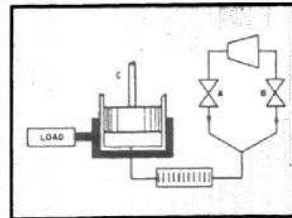
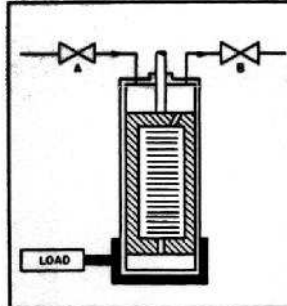

Figure 2 Cooling Circuit with Regenerator
Figure 4 Improved Single Stage Refrigerator
incoming gas must be cooled with the exhaust gas before the former reaches the cylinder. This is accomplished in the CRYODYNE refrigerator by a regenerator, which extracts heat from the incoming gas, stores it, and then releases it to the exhaust stream (Figure 2).
- does so (6). The temperature drop ( $\Delta T_r$ ) is responsible for the refrigerating effect.
- Heat flows from the load through the cylinder walls, warming the gas to a temperature slightly ( $\Delta T_c$ ) below that at which it entered the cylinder (7).
- As the gas passes through the regenerator, it warms up (8) as it receives heat from the matrix, and the matrix is cooled (4) to (3).
- The low-pressure gas leaves through valve B at approximately room temperature (9).
- In the system of Figure 2, the piston would require a pressure seal and would have to be designed to withstand unbalanced forces. A more practical version of this cycle is shown in Figure 4. This system uses a double-ended cylinder and
The refrigerator shown in Figure 4 can achieve temperatures in the 30-77 K range. Since many of the applications of the CRYODYNE refrigerator are below that temperature, we can add a second, and even a third stage to produce temperatures below 10K.